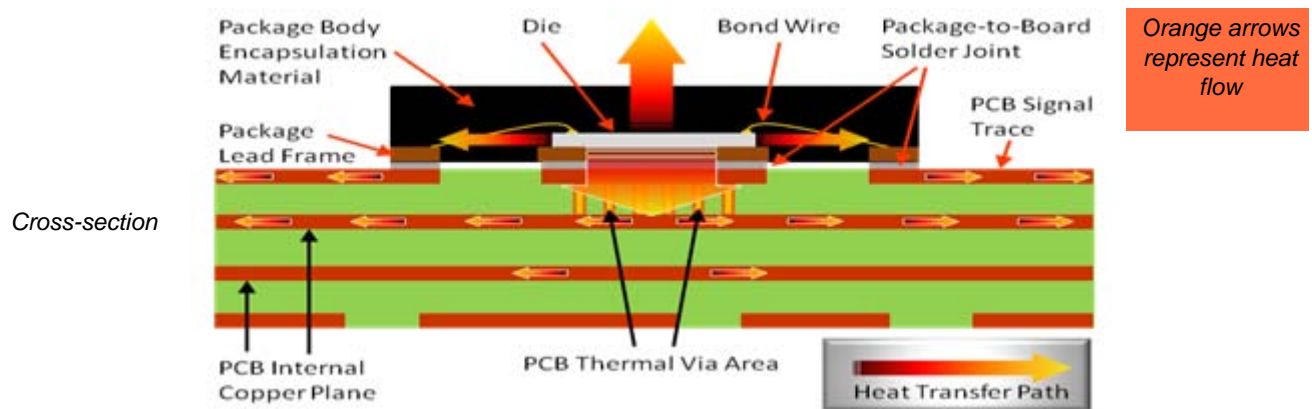

Figure 13. QFN-EP package showing heat transfers
The majority of QFN packages are base on thermally/electrically enhanced lead-frame technology; the bottom of the package provides the primary heat removal path, as well as excellent electrical grounding to the PCB through an exposed pad (EP). In a QFN-EP package, the die attach paddle is at the same level as the perimeter pads within the package, such that the pad is exposed during the mold process, as shown in Figure 13. To optimize thermal performance, the PCB design should include a thermal plane.